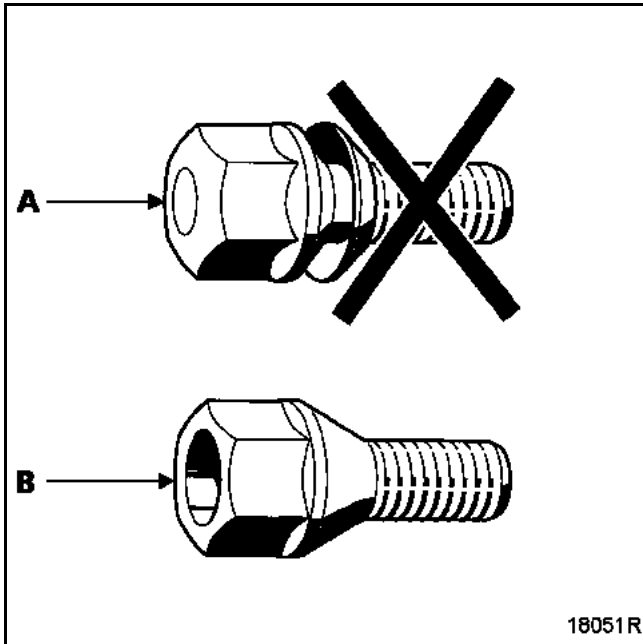

Fig. 1
fitted with wheel bolts with a washer (A) (Fig. 1)
When fitting the spare wheel or winter wheels, **bolts suitable for fitting pressed steel wheels must be used**. These vehicles are supplied from the outset with a set of four bolts in the emergency spare wheel holder and a label making this recommendation is stuck to the emergency spare wheel (Fig. 1).
NOTE: a set containing a bag of four bolts (B) (Fig. 1)